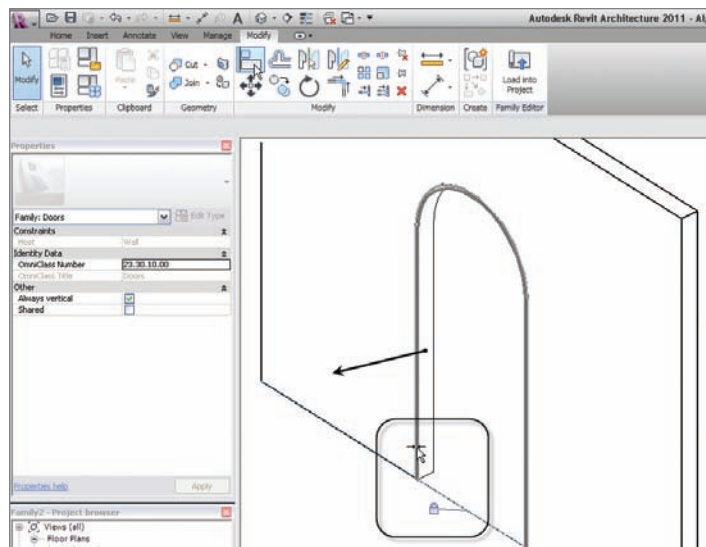

FIGURE 17.20 Aligning and locking the inside face of the jamb to the wall
2. Click the **Align** button, as shown in Figure 17.20.
6. Click the open padlock icon that appears (see Figure 17.20).